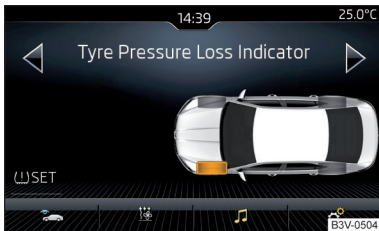

Fig. 309
- Tap the functional surface **(L) SET** interface » Fig. 309.
When the warning light **(L)** appears in the instrument cluster, the affected tyre can be displayed on the infotainment system » Fig. 309.